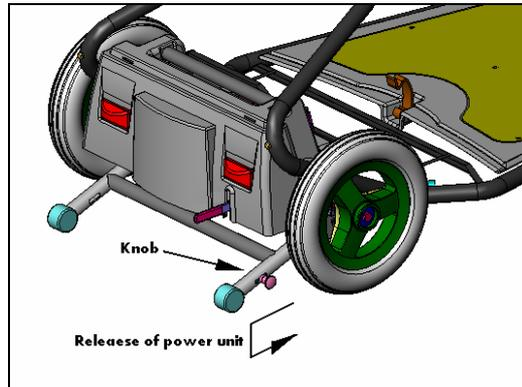

Figure 22a
- c. Squeeze the rear knob at the right of the anti tip and pushed it downward until locked again. (See **Figure 22a**)